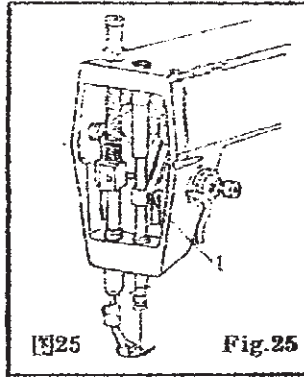

图25 Fig.25
- (1) 旋松旋梭的三个固定螺钉；
- (2) 转动上轮，使机针下降到最低位置后上升 2.2毫米；
- (3) 转动旋梭，使勾线尖到达机针的中线处；
- (4) 松开针杆连接轴紧固螺钉“T” (图 25)；
- (5) 调整针杆的高度，使旋梭勾线尖高于机针孔上边 2毫米；最后将全部紧固螺钉旋紧。
- (1) Loosen the three set screw of rotary hook,
- (2) Turn balance wheel to lower than the needle in the lowest position and then raise it 2.2mm.
- (3) Turn the rotary hook to make the looping point on the position of the midline of needle.
- (4) Loosen the set screw of needle bar link shaft (Fig. 25)
- (5) Regulate the height of needle bar to make the looping point 2mm higher than the hole of needle.